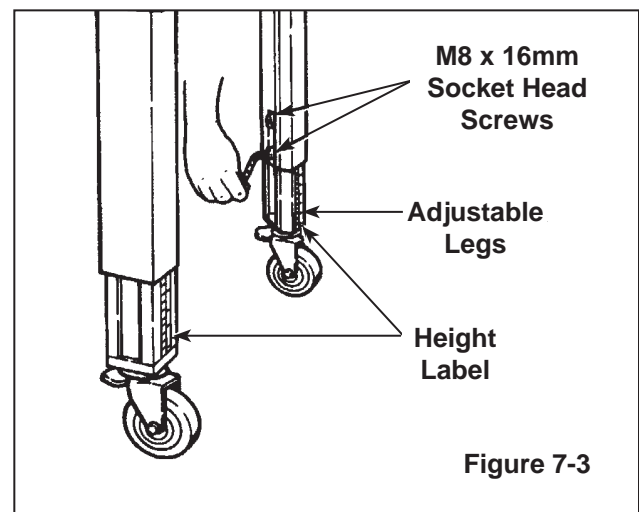

Figure 7-3
2. Using a 6mm hex key wrench, loosen, but do not remove, two (2) M8 x 16mm socket-head cap screws in one leg. Refer to **Figure 7-3**.
3. Using the height label as a guide, adjust the leg length to the desired conveyor bed height. Re-tighten the two (2) screws to secure the leg.